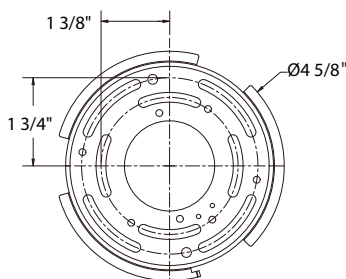
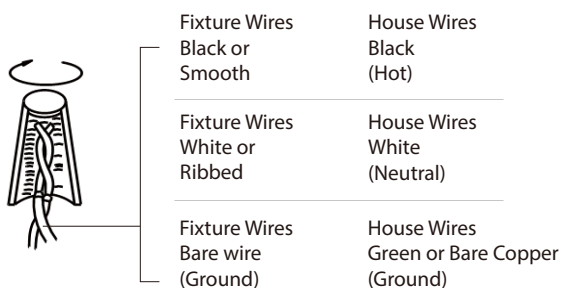

FIG. 2 Wiring
Fig.3 Driver Wires
MOUNTING THE FIXTURE (Fig. 1, Fig. 3)
6. Due to limited space within the canopy, shorten the wires as necessary to make the installation easier. Make sure to identify and label all the wiring properly before any trimming/shortening. (Fig. 3)
WIRING AND HANGING FIXTURE(Fig. 1, Fig. 2, Fig. 3)
7. Connect the driver's input/output wires to junction box wires and fixture wires as shown in Fig. 2/Fig. 3 using wire connectors (A) provided. Ensure all wire connectors are secure. Connect the fixture's ground wire to the ground in the junction box; this will be either a green wire or a bare copper wire. After wires are connected, tuck them carefully inside the junction box.
8. Secure the fixture by mounting the canopy to the ceiling plate. Slide the canopy in the direction of the notch until it latches in place. Fasten the canopy to the ceiling plate using the canopy screw (B).